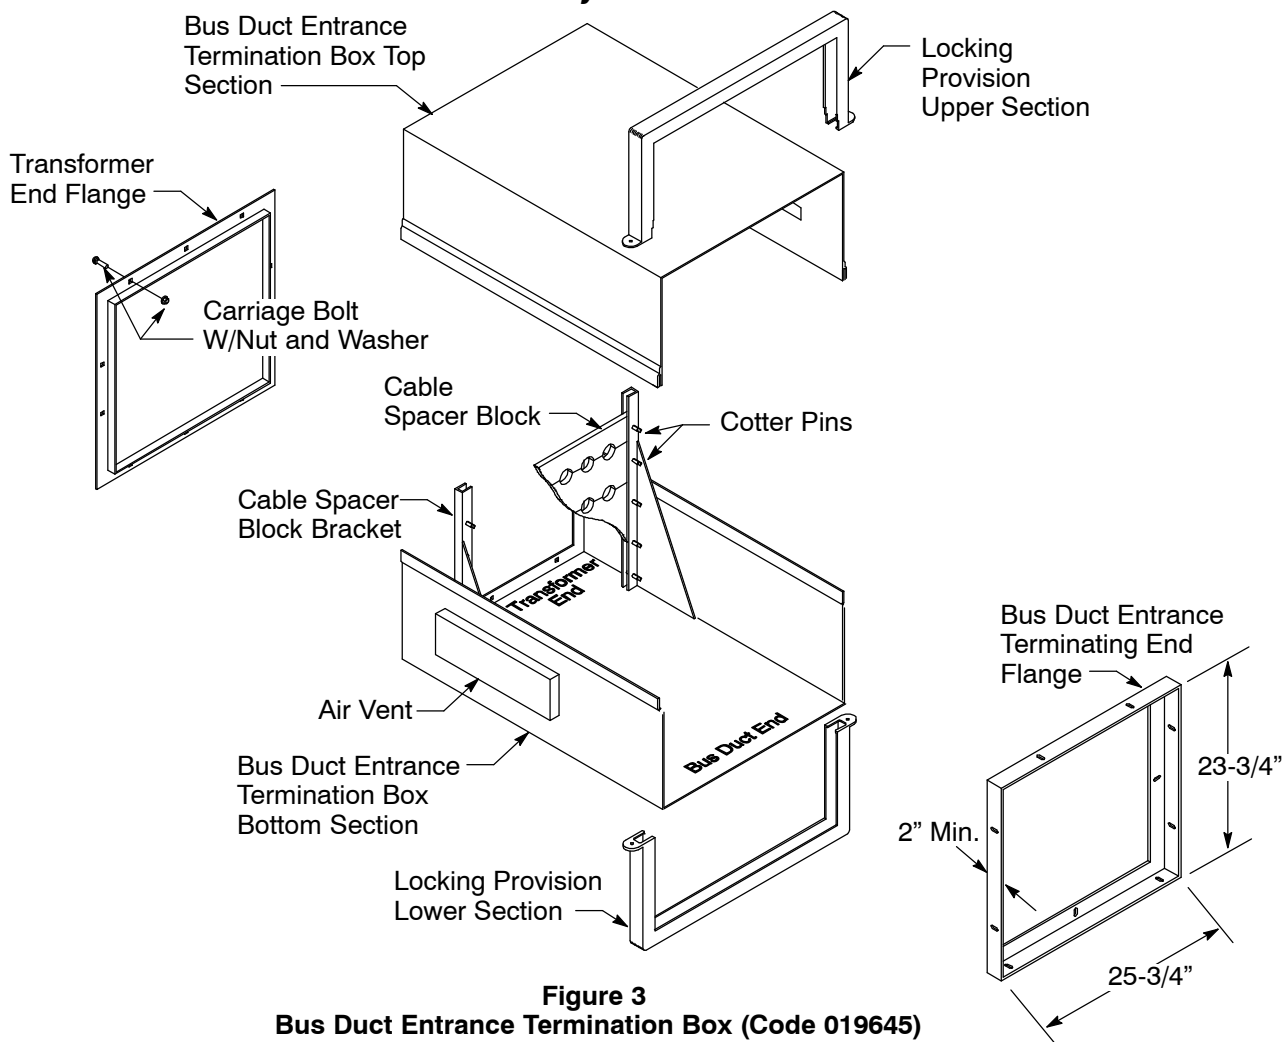

**Figure 2**
1. Method of installation (see Figure 1 on Page 4) - The location of the edge of the pad must first be established by consultation between PG&E and the building architect or contractor. The bus duct termination end flange and flange plate must be located such as to permit its connection to the bus duct entrance termination box at a point 23 inches to 24 inches from the edge of the pad. The vertical centerline of the bus duct entrance termination box must be located 23 inches from the front edge of the transformer pad (see Figure 1, Section A-A and Figure 2, Section B-B on Page 4). Additionally, there must be a minimum of 60 inches straight length between the edge of the pad and any obstruction (bend, support, apparatus, wall or building, etc) in the bus duct to accommodate the 48" long bus duct entrance termination box provided by PG&E.
5. Feeder bus duct and entrance box supports - Feeder bus duct supports (where necessary) are required to be installed by the customer. The entrance box must not be used as a bus duct support. PG&E will provide and install a support (supports are not part of a kit) for the bus duct entrance termination box, as shown in Figure 1 and Figure 2 on Page 4, and Detail F on Page 10.